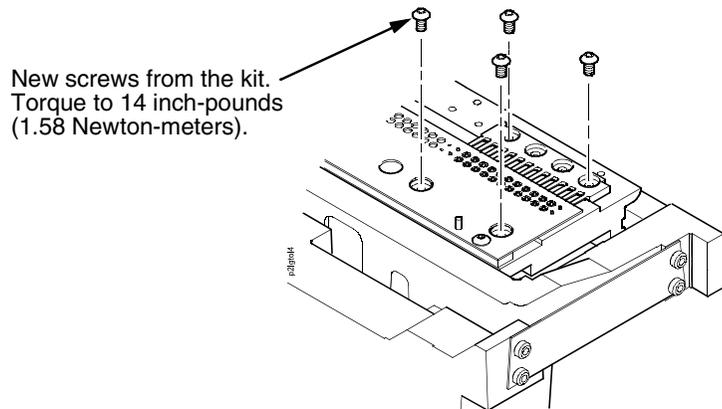

Figure 32. Installing the Torx T-10 Screws
7. Continue to apply a slight downward pressure on the tool and install the outer two mounting screws in the hammer spring assembly nearest you. Now install the outer mounting screws in the other hammer spring assembly. Torque each screw to 14 in-lbs (1.58 N•m). (See Figure 32 and use the 1-30 inch-pound Torque Screwdriver, IBM part number 16F1661.)